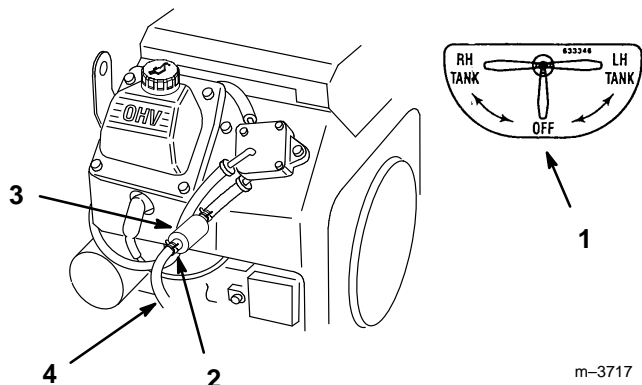

Figure 35
5. Install a new filter and move the hose clamps close to the filter (Fig. 35).
2. Close fuel shut-off valve (Fig. 35).
3. Loosen the hose clamp at the fuel filter and slide it up the fuel line away from the fuel filter (Fig. 35).
4. Pull the fuel line off fuel filter (Fig. 35). Open fuel shut-off valve and allow gasoline to drain into a gas can or drain pan.
5. Install the fuel line onto the fuel filter. Slide the hose clamp close to the fuel filter to secure the fuel line (Fig. 35).